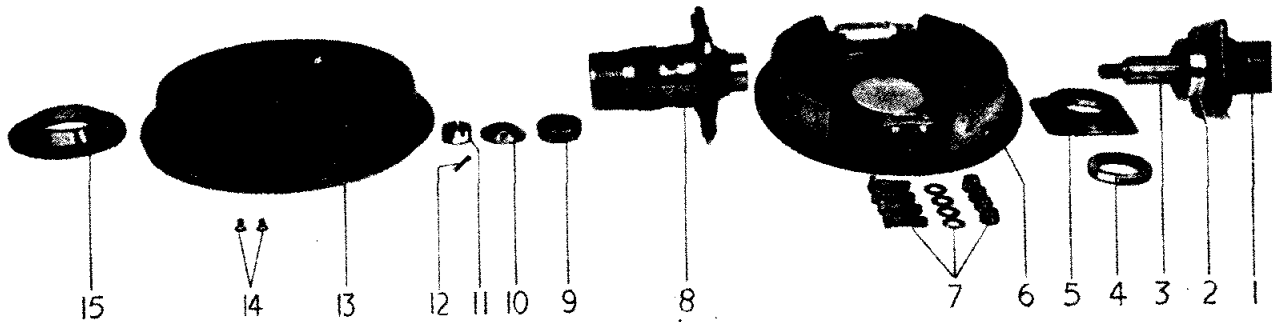

Fig. 35
- (xxxiv) Fit wheel securing cones (wire wheel hubs only). Fig. 35.